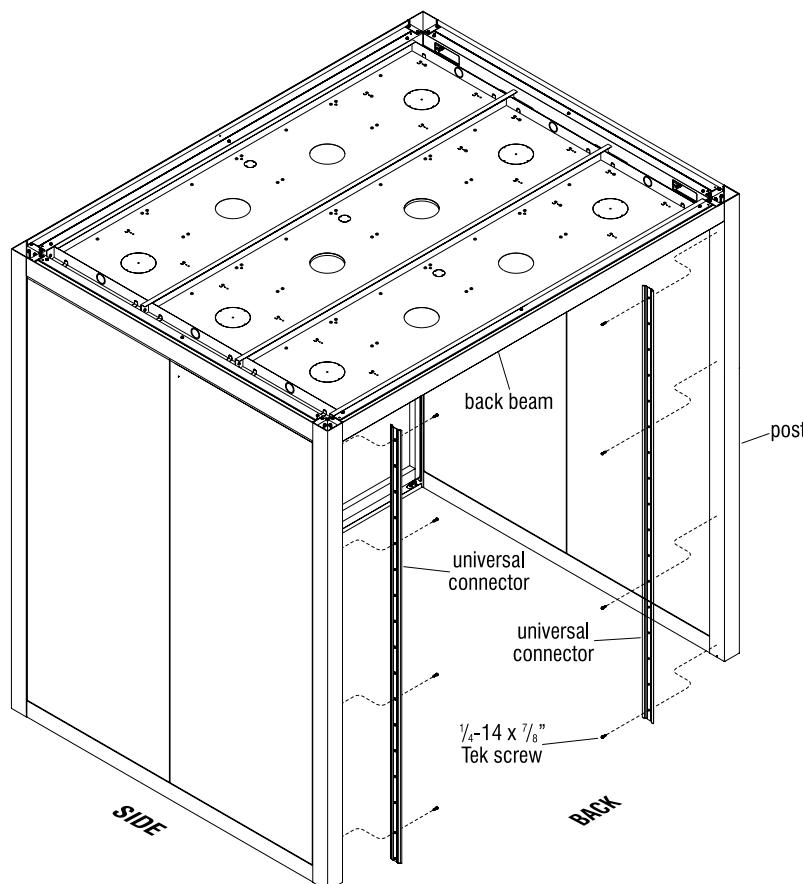

Figure 2 -Genius Universal Connector
3. To install universal connectors to each super structure post, first measure from the underside of the back beam, down to the floor at each post, then cut each universal connector to that measurement (Figure 2).
4. One at a time, perfectly center each universal connector to the side of the back wall post where the Genius panel will join to it and secure the universal connector to the post using four evenly spaced  $1/4\text{-}14 \times 7/8\text{"}$  Tek screws as illustrated (Figure 2).